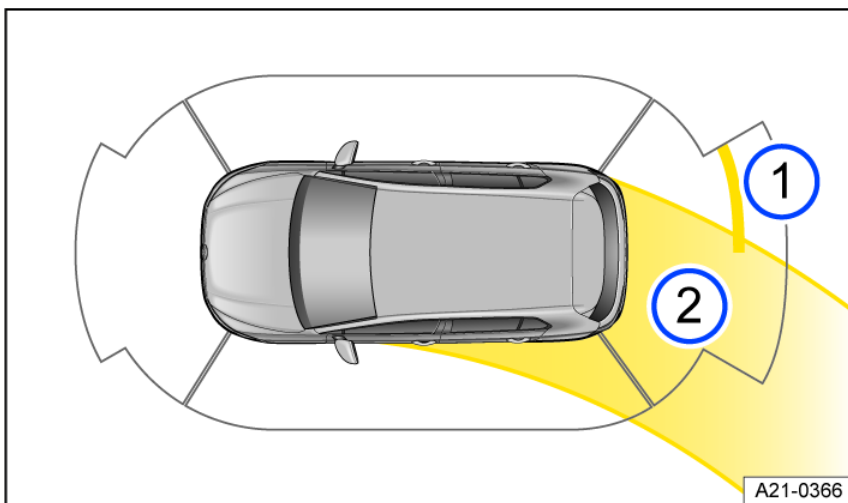

Fig. 148 Infotainment system: Display of Park Distance Control (general example).
The Park Distance Control warns you of a collision via colored segments on the screen of the Infotainment system and via warning chimes fig. 148, ⇒ ①.